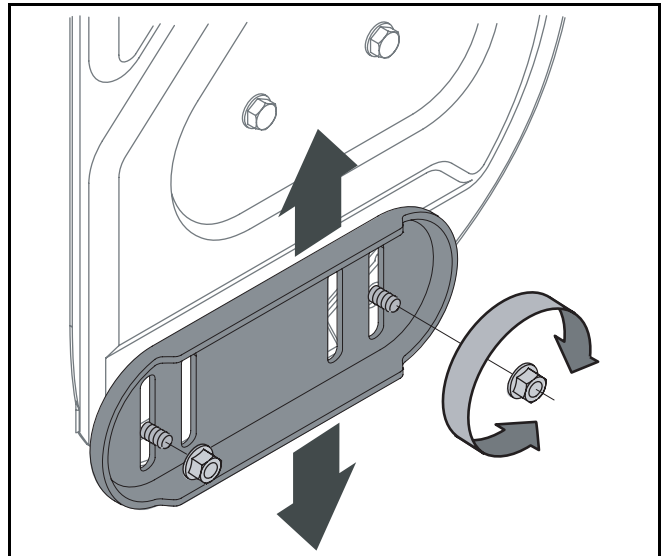

Figure 3
The space between the skid shoes and the ground can be adjusted. See Figure 3.
- To remove skid shoes, remove the four carriage bolts and hex flange nuts which secure them to the snow thrower. Reassemble new skid shoes with the four carriage bolts (two on each side) and hex flange nuts. Refer to Figure 3.